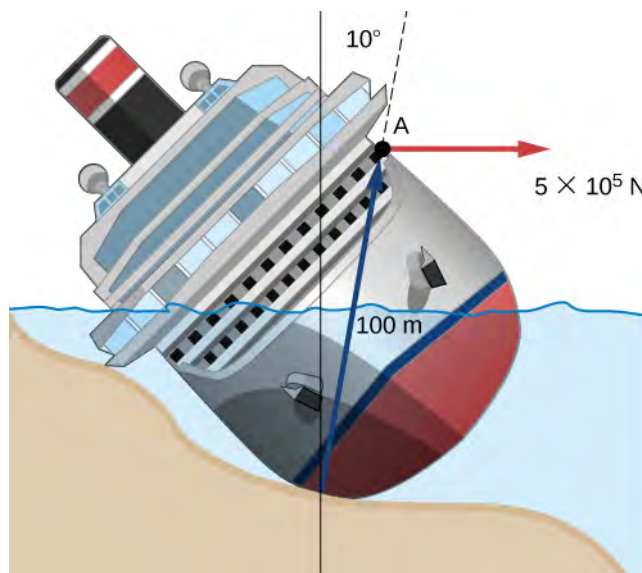

Figure 10.36 A ship runs aground and tilts, requiring torque to be applied to return the vessel to an upright position.
10.6 Check Your Understanding A large ocean-going ship runs aground near the coastline, similar to the fate of the *Costa Concordia*, and lies at an angle as shown below. Salvage crews must apply a torque to right the ship in order to float the vessel for transport. A force of $5.0 \times 10^5 \text{ N}$ acting at point A must be applied to right the ship. What is the torque about the point of contact of the ship with the ground (**Figure 10.36**)?